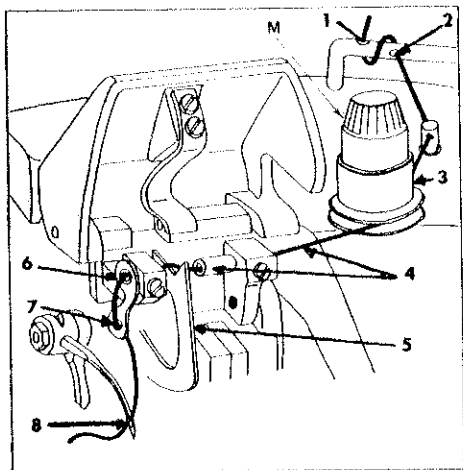
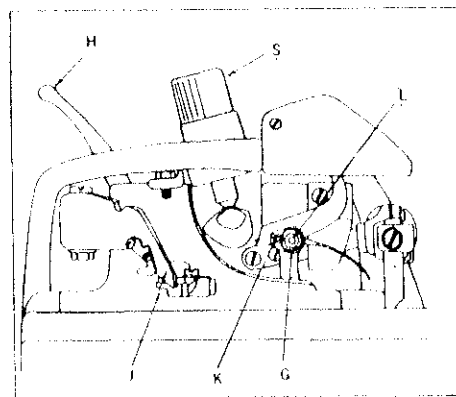

fig 7
fig 6
THREADING THE NEEDLE (FIGURE 7)
TO SIMPLIFY THREADING SWING PRESSER ARM (J) FIGURE 6 OUT TO LEFT, AND OPEN NEEDLE COVER (UPWARDS). TAKE THE THREAD FROM THE THREAD STAND, AND LEAD FROM BACK TO FRONT THROUGH EYELET 1 FIGURE 7, AND AGAIN OVER FROM BACK TO FRONT THROUGH EYELET 2. INSERT THREAD CLOCK WISE BETWEEN TENSION DISCS 3, TURN HANDWHEEL UNTIL NEEDLE CLAMP (G) FIGURE 6 IS AT ITS LOWEST POSITION OR WHEN FORKED TAKE UP 5, FIGURE 7, IS IN LINE WITH TUBE 4, THEN CONTINUING BETWEEN FORK TAKE UP 5 AND THROUGH EYELET 6 KEEPING NEEDLE CLAMP (G) FIGURE 6, AT ITS HIGHEST POSITION, PASS THREAD DOWN FROM EYELET 6 TO EYELET 7, AND DOWN THROUGH NEEDLE 8 FROM FRONT TO BACK.